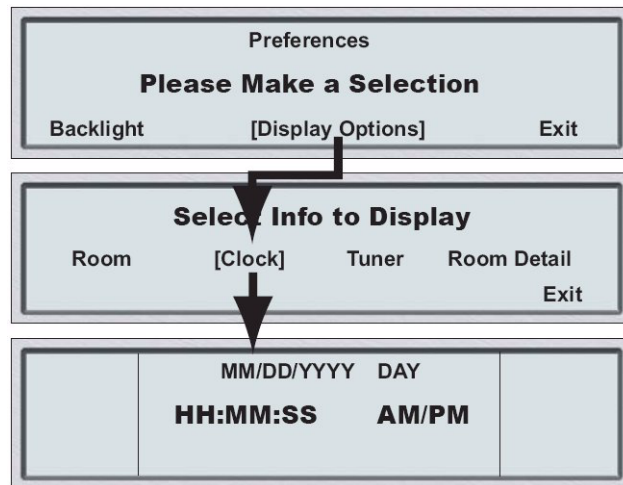

FIG. 48 Clock Menu
- If **Clock** is selected, the current time, date, and day will be displayed (the “M” will not be displayed - FIG. 48).